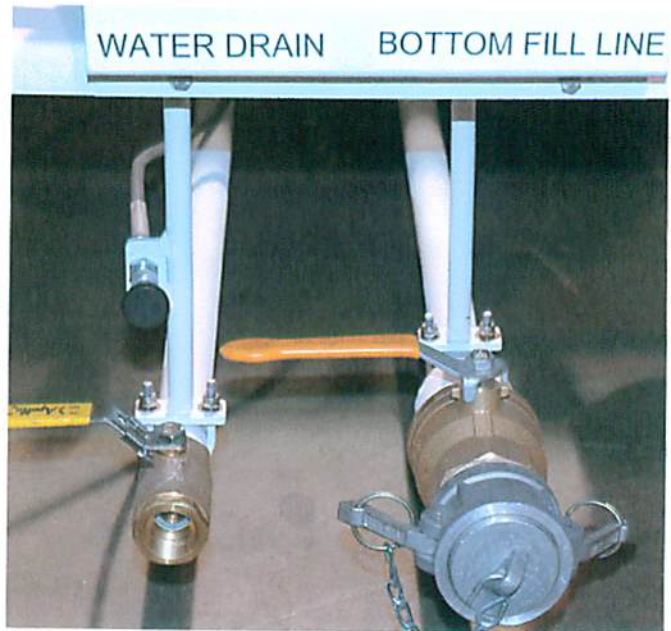

Figure 4.2
- 6 Open Bottom Fill valve handle, pulling rearward, inline with plumbing. See Fig. 4.2
- 6 Open Bottom Fill valve handle, pulling rearward, inline with plumbing. **See Fig. 4.2**
- 12 Close Bottom Fill Valve. See Fig. 4.2
- 3 Open Water Drain Valve located under Pump. **See Fig 4.2**